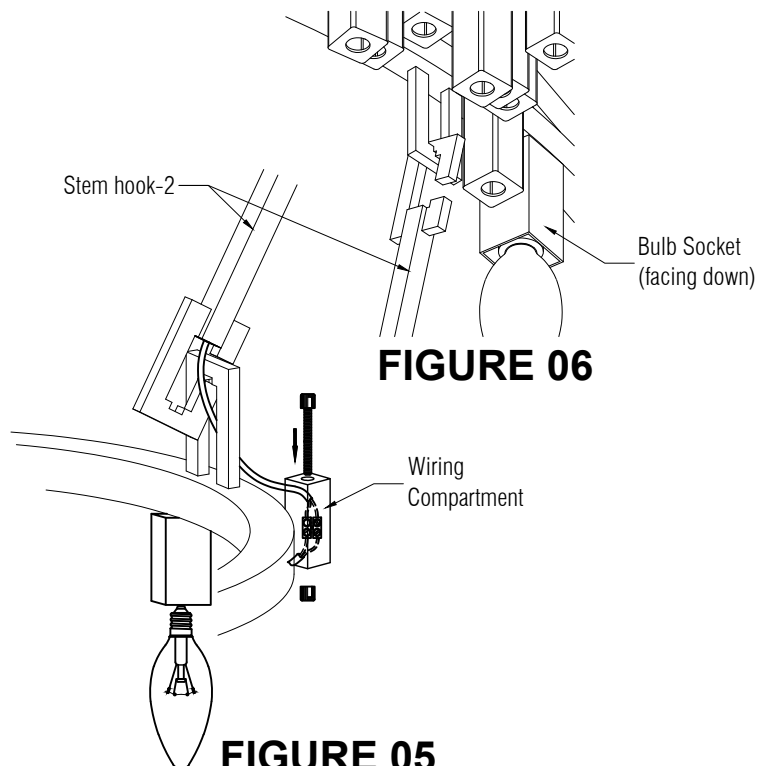

FIGURE 05
7. Install and align 2nd tier frame wiring compartment from 1st tier frame wire way and connect the wire. (see fig. 05)
- Install and align 3rd tier frame wiring compartment from 2nd tier frame wire way and connect the wire. (see fig. 05)
9. tier frame wire way and connect the wire. (see fig. 05)
11. Install and align 4rth tier frame wire way to 3rd tier frame wiring compartment and connect the wire. (see fig. 05) Please note to close all the compartments after done wiring.
12. Insert safety cable through center pipe-2(T) and thread the pipe after. (see fig. (07)
13. Again, Insert safety cable through center pipe-1 (O) and thread after. (see fig. (07)